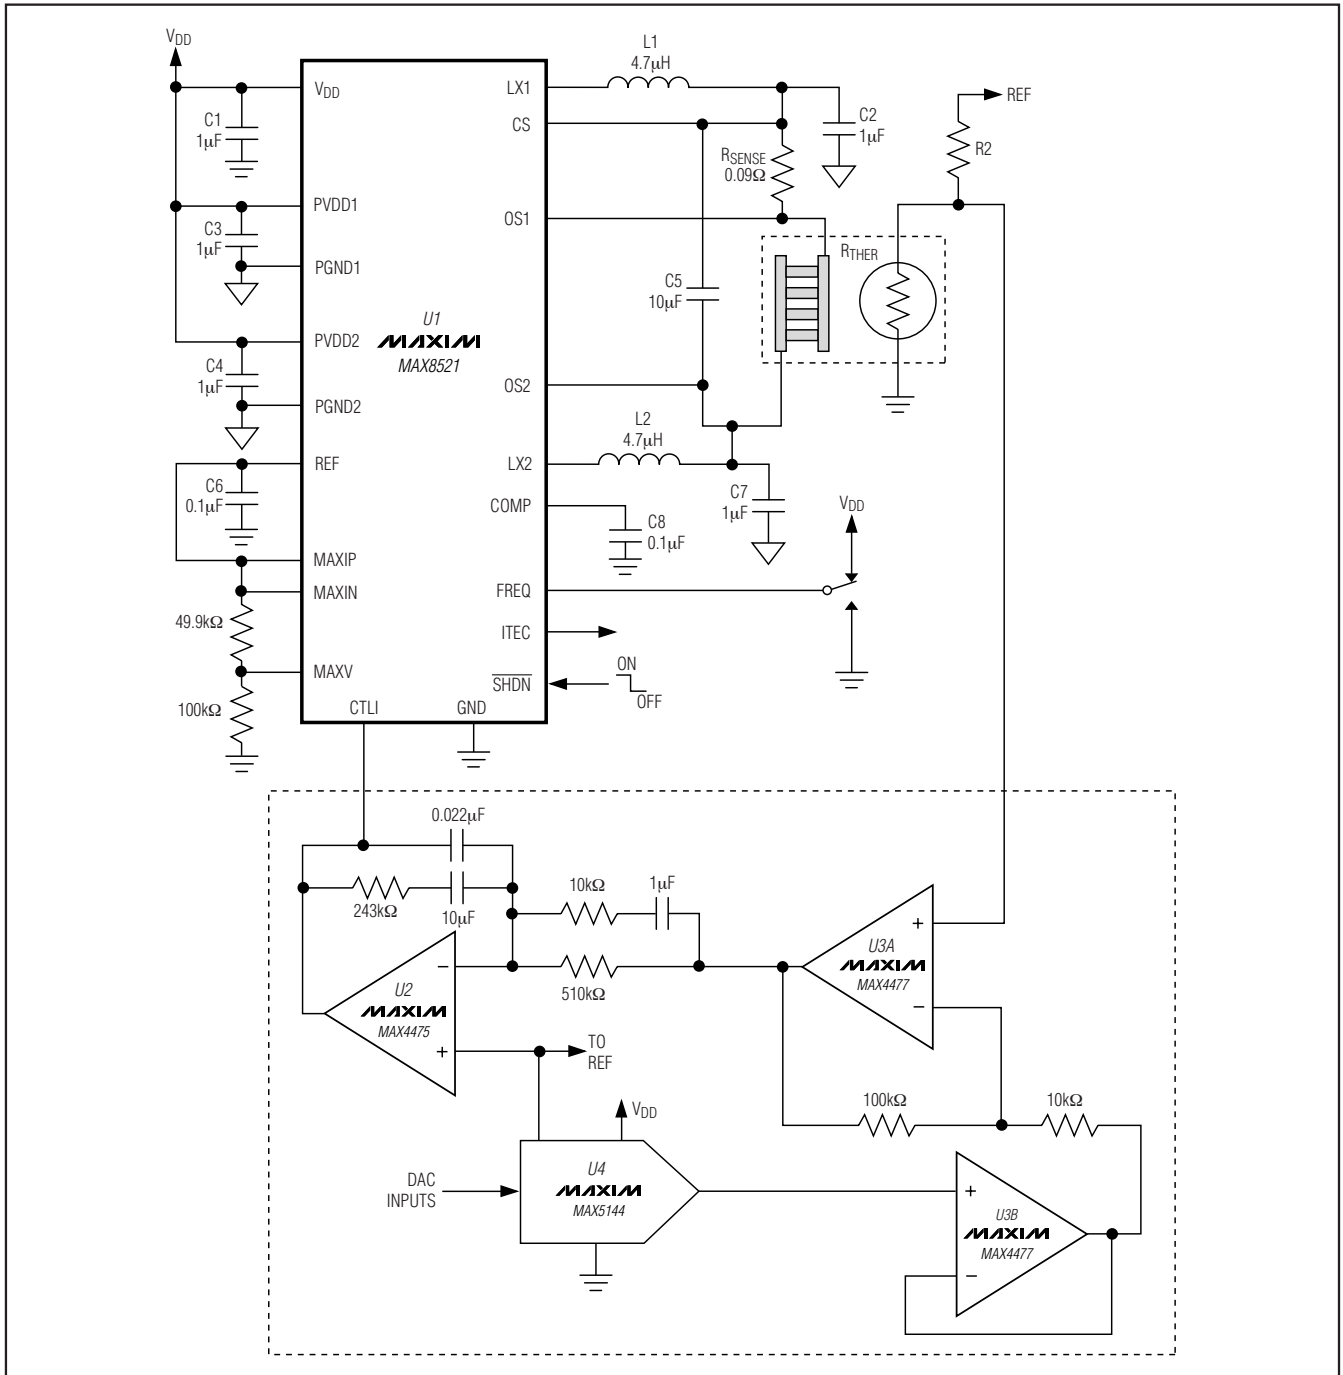

Figure 1. MAX8521 Typical Application Circuit
( $V_{DD} = 5V$ , circuit of Figure 1,  $T_A = +25^\circ C$  unless otherwise noted.)
The MAX8520/MAX8521 TEC drivers consist of two switching buck regulators that operate together to directly control the TEC current. This configuration creates a differential voltage across the TEC, allowing bi-directional TEC current for controlled cooling and heating. Controlled cooling and heating allow accurate TEC temperature control to within 0.01°C. The voltage at CTLI directly sets the TEC current. An external thermal-control loop is typically used to drive CTLI. Figures 1 and 2 show examples of the thermal-control-loop circuit.
Table 1. TEC Connection for Figure 1
The MAX8520/MAX8521 include an on-chip voltage reference. The 1.50V reference is accurate to 1% over temperature. Bypass REF with 0.1μF to GND. REF can be used to bias an external thermistor for temperature sensing as shown in Figures 1 and 2.
The common-mode filter capacitors (C2 and C7 of Figure 1) are used as filter capacitors to ground for each output. The output ripple voltage depends on the capacitance, the ESR of these capacitors, and the inductor ripple current. Ceramic capacitors are recommended for their low ESR and impedance at high frequency.
The differential-mode filter capacitor ( $C_5$  in Figure 1) is used to bypass differential ripple current through the TEC as the result of unequal duty cycle of each output. This happens when the TEC current is not at zero. As TEC current increases from zero, both outputs move away from the 50% duty-cycle point complementarily. The common-mode ripple decreases, but the differential ripple does not cancel perfectly, and there will be a resulting differential ripple. The maximum value happens when one output is at 75% duty cycle and the other is at 25% duty cycle. At this operating point, the differential ripple is equal to 1/2 of the maximum common-mode ripple. The TEC ripple current determines the TEC performance, because the maximum temperature differential that can be created between the terminals of the TEC depends on the ratio of ripple current and DC current. The lower the ripple current, the closer to the ideal maximum. The differential-mode capacitor provides a low-impedance path for the ripple current to flow, so that the TEC ripple current is greatly reduced. The TEC ripple current then can be calculated as follows:
There are numerous ways to implement the thermal loop. Figures 1 and 2 show designs that employ precision op amps, along with a DAC or potentiometer to set the control temperature. The loop can also be implemented digitally, using a precision A/D to read the thermistor or other temperature sensor, a microcontroller to implement the control algorithm, and a DAC (or filtered-PWM signal) to send the appropriate signal to the MAX8520/MAX8521 CTLI input. Regardless of the form taken by the thermal-control circuitry, all designs are similar in that they read temperature, compare it to a set-point signal, and then send an error-correcting signal to the MAX8520/MAX8521 that moves the temperature in the appropriate direction.
6) To ensure high DC-loop gain and minimum loop error, keep the board layout adjacent to the negative input pin of the integrator (U2 in Figure1) clean and free of moisture. Any contamination or leakage current into this node can act to lower the DC gain of the integrator which can degrade the accuracy of the thermal loop. If space is available, it can also be helpful to surround the negative input node of the integrator with a grounded guard ring.